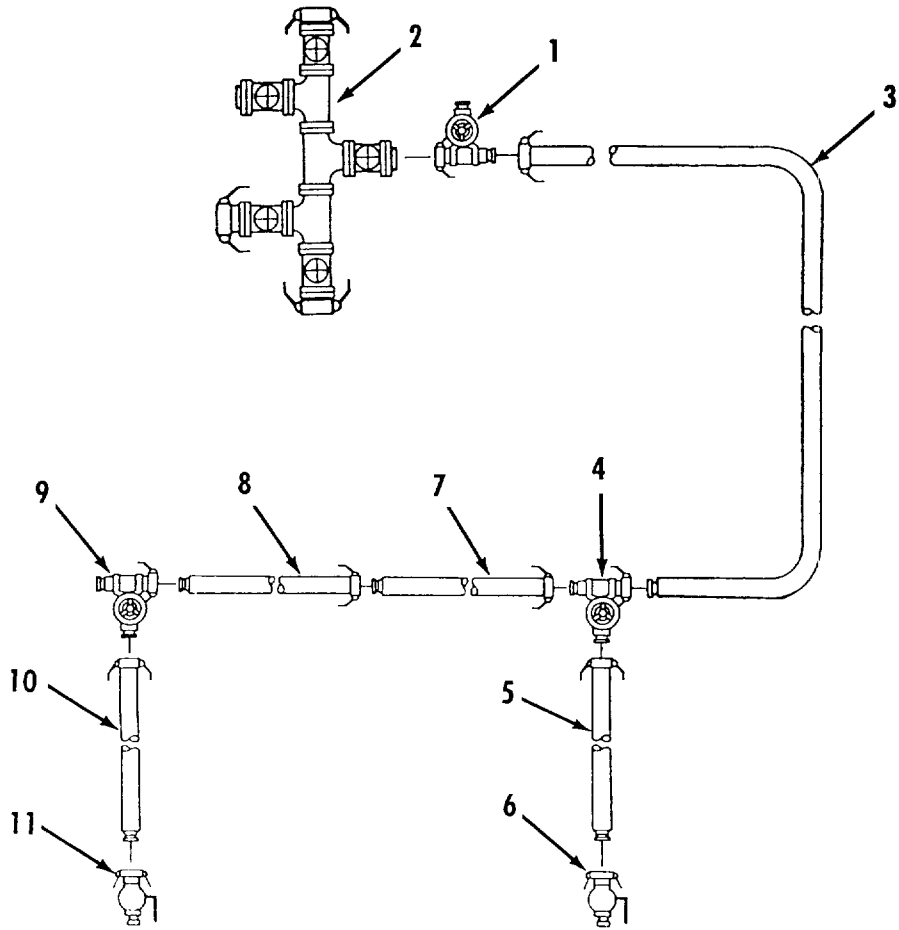

Figure 2-19. Fuel System - Fueling Manifold with Five Valves to Bottom Loading Points.
- k. Fuel System Fueling Manifold with Five Valves to Bottom Loading Points. Refer to figure 2-19.